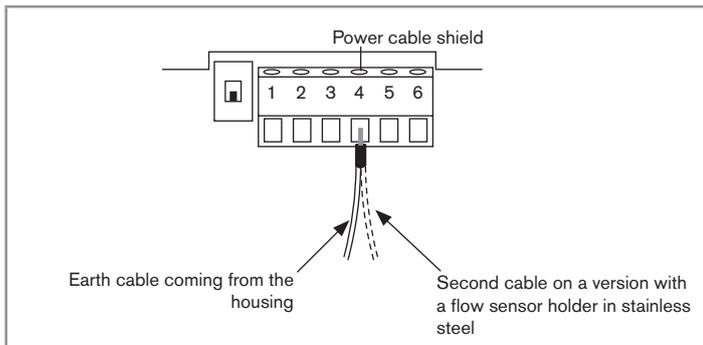

Fig. 14 : Earth connection terminal
- In the housing, connect the power supply cable shield to terminal no. 4 of the electronic board connector (Fig. 14). On a version with stainless steel flow sensor, a second cable is coming from the sensor.